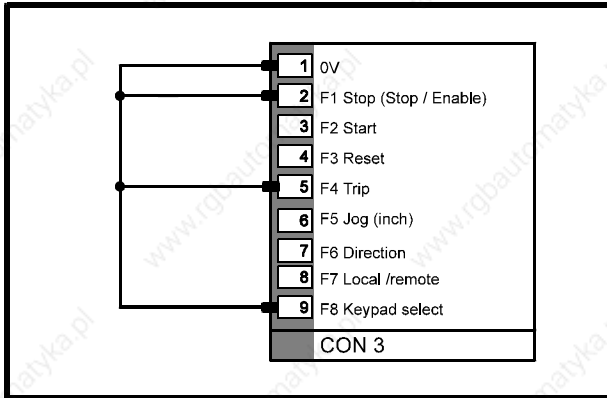

Figure 8–2 Connections for operating the Drive in Keypad Mode
1. Connect together pins 1, 2, 5 and 9 of connector CON 3 as shown in Figure 8–2.